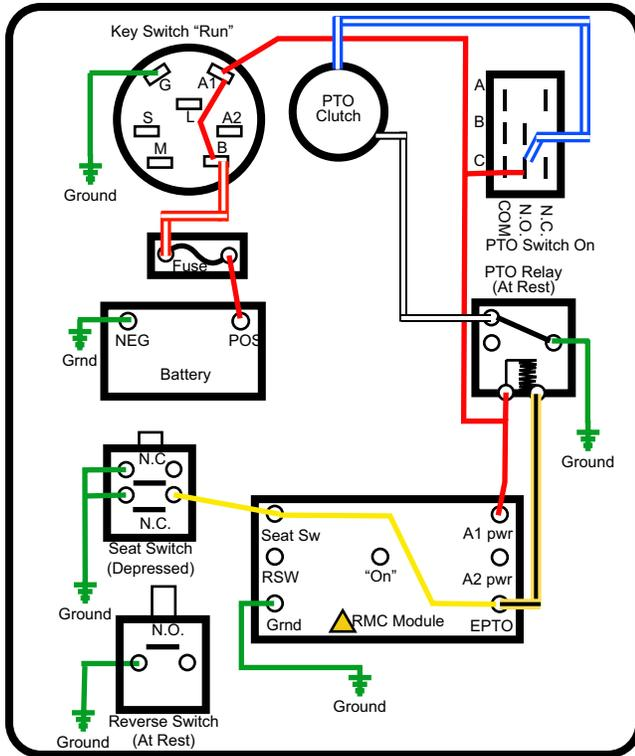

Figure 7.39
2. The seat switch contains two sets of contacts. The set with the yellow wire leads to ground when the contacts of the seat switch are closed. See Figure 7.39.